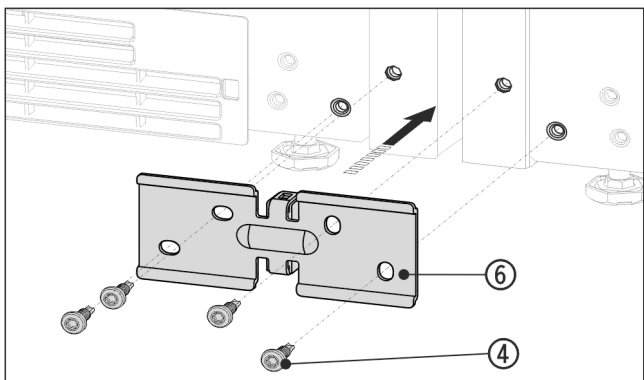

Fig. 15 Example illustration
- Slide the bracket Fig. 15 (6) on with the spacer between the appliances and screw in loosely with the 4 screws Fig. 15 (4).